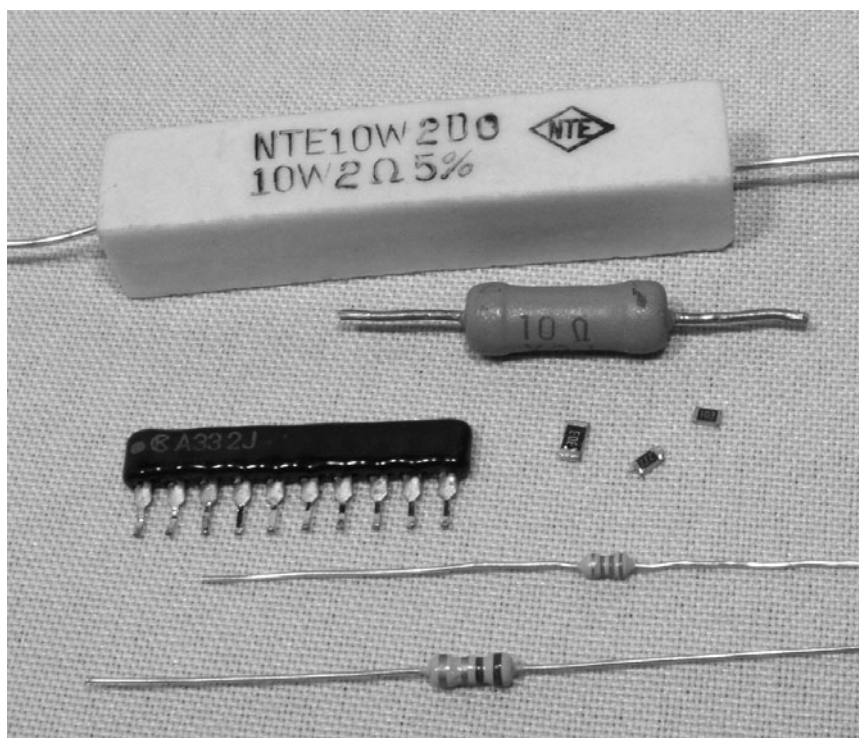

Figure I-11 Resistors with fixed values.
*Resistors* like the ones shown in Figure I-11 are the most basic of the semiconductors you will be using, and they do exactly what their name implies—they resist the flow of current by exchanging some current for heat that is dissipated through the body of the device. On a large circuit board, you could find hundreds of resistors populating the board, and even on tiny circuit boards with many surface-mounted components, resistors usually will make up the bulk of the semiconductors. The size of the resistor generally determines how much heat it can dissipate, and the resistor will be rated in watts, with  $\frac{1}{4}$  and  $\frac{1}{8}$  W being the most common type you will work with (the two bottom resistors shown in the figure). Resistors can become very large and will require ceramic-based bodies, especially if they are rated for several watts or more, such as the 10-W unit
shown at the top of Figure I-11. To save space, some resistors come in packs, such as the one in the figure that has multiple legs.